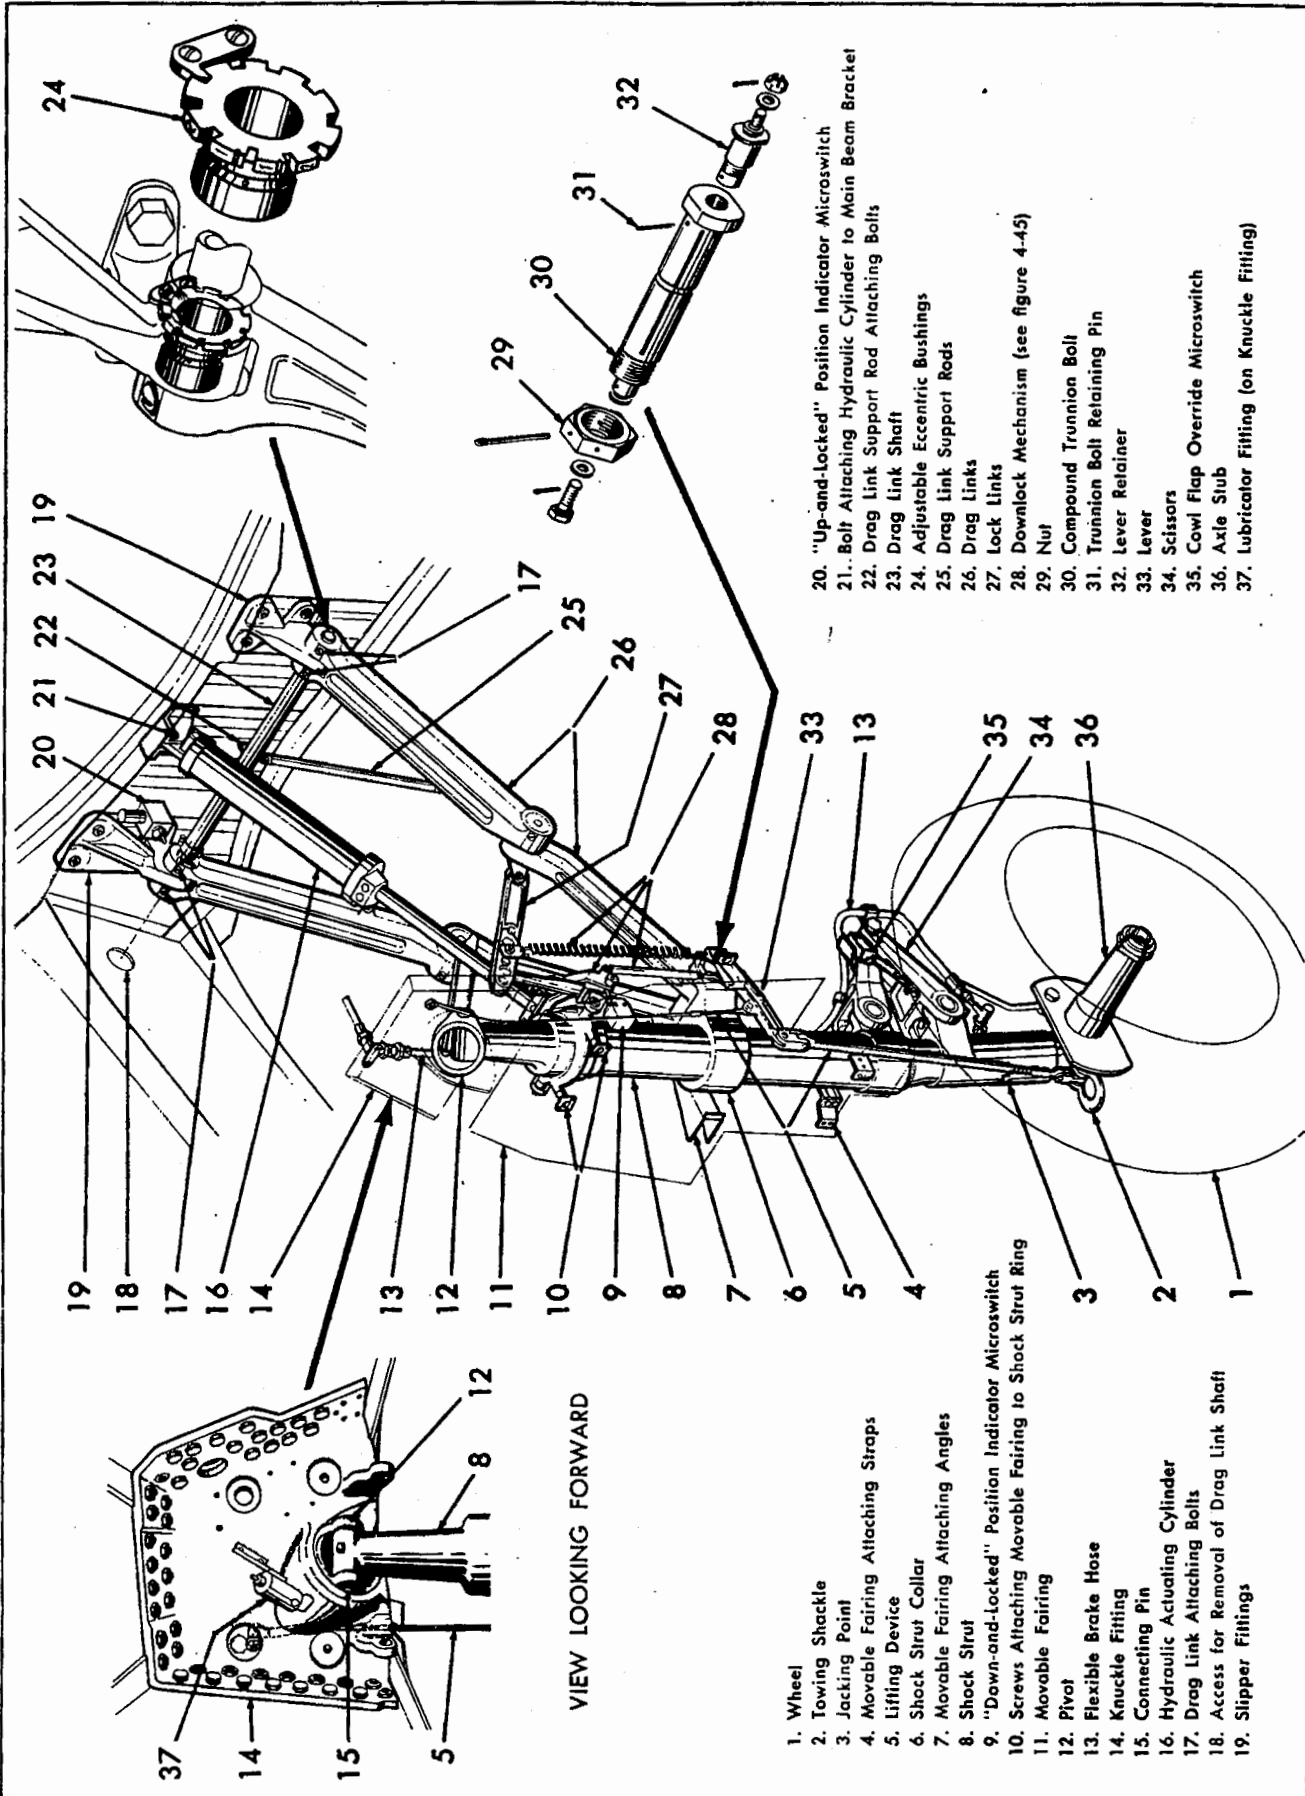

Figure 4-44. Main Landing Gear Reference Diagram.
4-306. MECHANICAL DOWNLOCK. (See figure 4-44.) The mechanical downlock on each main landing gear consists of two spring-loaded downlock links, pivoting on each side of the fixed upper portion of the shock strut ring. The downlock links are forced against pins on the lock links by the springs when the shock strut is compressed (airplane on ground). A spring assembly from the downlock links to the movable portion of the shock strut overcomes the locking spring force when the shock strut is extended (after take-off or airplane jacked up) and pivots the downlock links free of the locking links. This permits breaking of the lock links, the drag links, and retraction of the gear. Since tail wheel retraction is accomplished hydraulically through the same sequence valve which retracts the main landing gear, and closes the main gear doors, retraction of the tail wheel cannot be accomplished until the airplane is off the ground and the mechanical downlock on the main gear is unlocked. The main landing gear downlock thus prevents inadvertent retraction of both main gear and tail gear while the airplane is on the ground.
4-307. LIFTING DEVICE. (See figure 4-44.) The lifting device consists of a tube which is connected to the towing ring attaching bolt at the centerline of the axle at its lower end, and to a pivoting lever at the shock strut collar at its upper end. The lifting device cable also attaches to the pivoting lever, and its upper end is secured in the knuckle fitting. As the landing gear is retracted, the lifting device cable is snubbed by a rounded projection on the knuckle fitting. This causes the lifting device to pull on the axle stub, compressing the shock strut approximately four inches and allowing the wheel to clear the aft end of the wheel well. The reverse of this process occurs in the extension of the landing gear.
4-308. MICROSWITCHES. (See figure 4-44.)
4-312. REMOVING. (See figure 4-44, except as noted.) The following paragraphs cover the removal of one main landing gear and the disengaging of its various connecting members:
- g. Disconnect the lift tube (15) from the towing ring on the axle and from the lever by removing the bolts.
- h. Disconnect the lower end of the downlock link assembly (4), the link (5) and the landing gear actuating cylinder (2) by removing their common bolts (10) at the small links near the shock strut ring. The small links (9) on the outboard side remains attached to the ring.
- j. Disconnect the upper end of the lock links by removing the bolt (8) at the knuckle fitting.
- k. Remove the nut (29) at the inboard end of the compound trunnion bolt (30) which connects the drag links (26) and lever (33) to the strut collar (6) and withdraw the bolt; refer to figure 4-44.
- l. Disconnect wiring to the "up" position microswitch (20), located on the main beam in both right and left wheel wells, and disconnect wiring to the cowl flap over-
The retaining pin (31) which holds the lever and the lever retainer (32) to the trunnion bolt (30) comes lightly staked in place. Should this staking have been disturbed by disassembly of the lever, it will be necessary to seal the pin with wax to hold it in place while assembling the bolt through the collar. Refer to figure 4-44.
j. Upon obtaining satisfactory alignment, of the actuating cylinder, connect the yoke and lock links to the link at the ring. Attach the two springs which extend from the lock links to the trunnion bolt. The landing gear is properly adjusted if the shock strut is snug against the pad on the lower side of the beam when the gear is in the locked-up position. Means of adjustment are provided by the collar and the eccentric bushings between the drag links shaft and the shaft fittings on the center section main beam (see figure 4-44).
4-320. ADJUSTING. (See figures 4-44 and 4-45.)
4-321. ADJUSTING ECCENTRIC BUSHINGS. The lugs on eccentric bushings are numbered so that markings are visible from wheel well. To adjust bushings, hoist airplane and proceed as follows. (See figure 4-44.)
d. If the eccentric bushings (reference 24 on figure 4-44) are set initially so that the two notched No. 1 lugs are at the forwardmost position, then the gear is locking at its maximum pressure, and rotation of the bushings will decrease the pressure to the desired locking pressure.
4-323. DESCRIPTION. (See figures 4-44 and 4-46.) The shock absorbing landing gear strut is of the oleo-pneumatic type, consisting of a sliding piston between